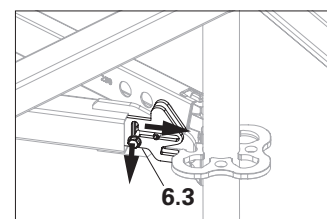

Fig. A1.04d
- Push the slider towards the rosette until the bolt (**6.3**) falls into the longitudinal groove. (Fig. A1.04d)